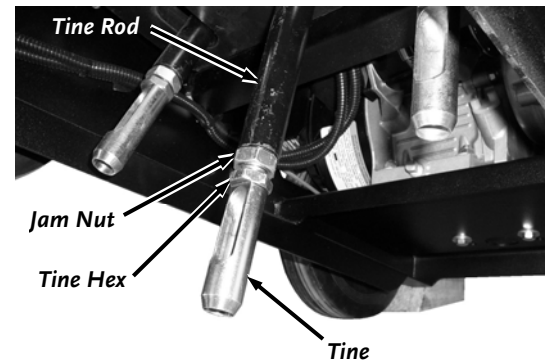

Figure 27
5. Hold the Tine Hex in place with a 7/8" Wrench as you turn the Jam Nut away from the Tine Shaft with a 15/16" Wrench (**Figure 27**).